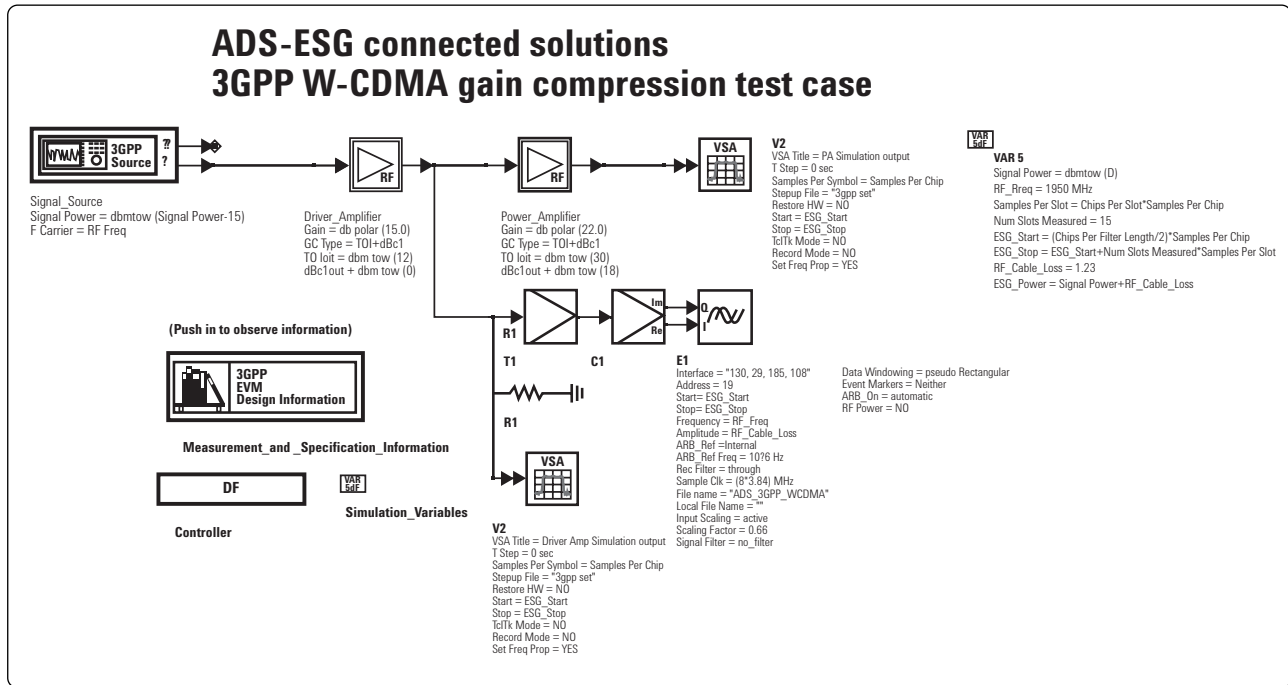
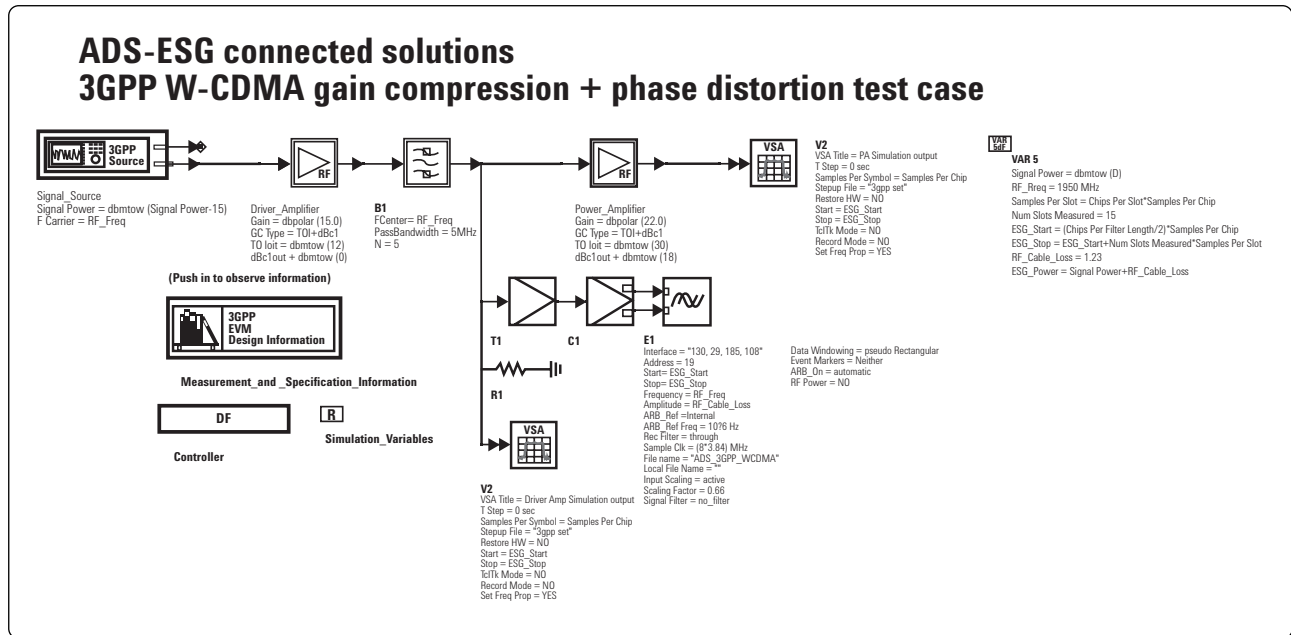

Figure 13. 3GPP W-CDMA example with gain compression.
Figure 17. Modified design including bandpass filter.
Step 1. The schematic in figure 13 was created by copying and modifying the 3GPP W-CDMA baseline schematic to add a behavioral driver amplifier and a behavioral power amplifier. The ADS-ESG sink is connected to the input of the simulated power amplifier to emulate a test case in which a power amplifier is being tested on the testbench. A real-world test signal is needed at its input which reflects the amplitude distortions of the components driving it (such as an RFIC). In this conceptual example, a simple behavioral driver amplifier provides the modeled distortion in ADS.
Step 5. We now extend this example to include phase distortion by adding a narrowband filter behind the driver amplifier. The schematic shown in figure 13 is modified to include a 5th order bandpass Chebyshev filter with a 5-MHz, 1-dB bandwidth, which is the RF channel bandwidth for 3GPP W-CDMA. The resulting schematic is shown in figure 17.